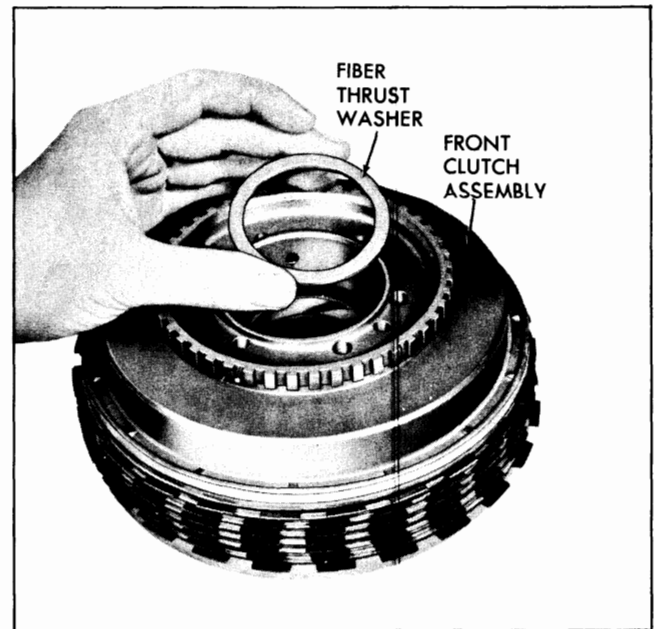

Fig. 7C-117 Installing Thrust Washer in Front Clutch Assembly
10. Apply air pressure to clutch apply holes (No. 1 and No. 3 Fig. 7C-66). A distinctive clunk will be heard when the pressure is released if the clutch is operating properly.